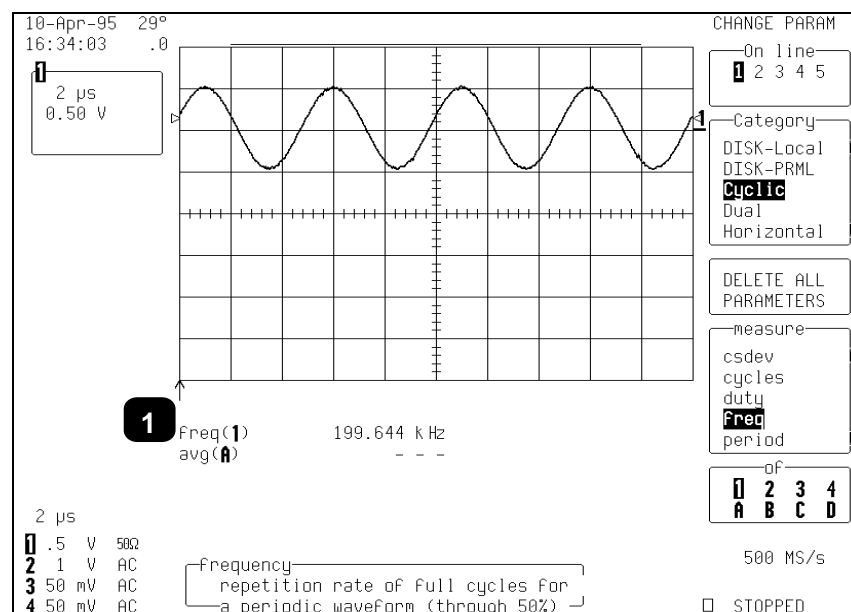

Figure 6.5
Histograms are created by graphing a series of waveform parameter measurements. The first step is to define the waveform parameter to be histogrammed. Figure 6.5 shows a screen display accompanying the selection of a frequency (**freq**) parameter measurement (item ❶) for a sine waveform on Channel 1.